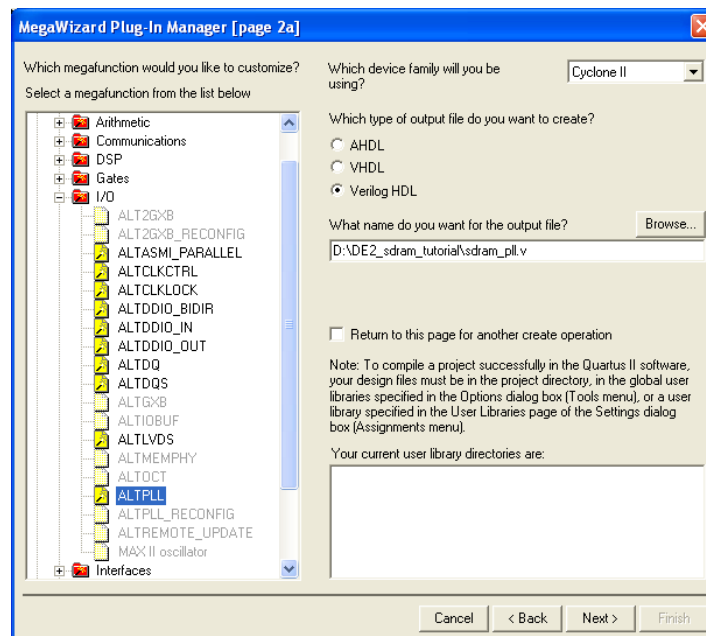

Figure 12. Select the megafunction and name the output file.
2. In the window in Figure 12, specify that Cyclone II is the device family used and that the circuit should be defined in Verilog HDL. Also, specify that the generated output (Verilog) file should be called *sdram\_pll.v*. From the list of megafunctions in the left box select I/O > ALTPLL. Click Next.